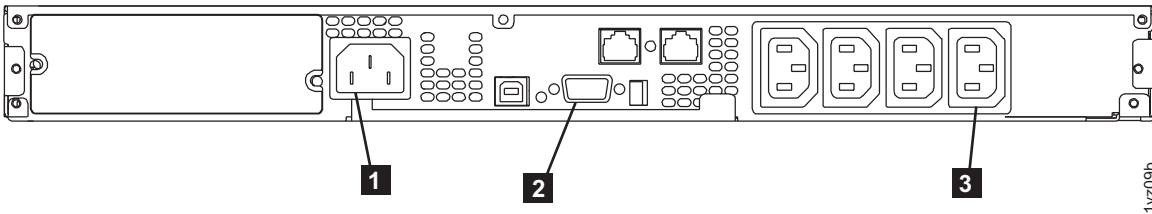

Figure 319. 2145 UPS-1U (rear view)
9. At the back of the 2145 UPS-1U, connect the SAN Volume Controller power cable to load segment 2 receptacle (**3** in Figure 319 on page 330). If applicable, install the power cable-retention bracket (shown in Figure 318 on page 330).
10. Reconnect the SAN Volume Controller signal cable to the communication port (**2** in Figure 319).
11. Reconnect the 2145 UPS-1U main power cable, from either the power distribution unit or from the redundant ac-power switch, into the input connector (**1** in Figure 319).
The 2145 UPS-1U is now in standby mode with the SAN Volume Controller offline. All indicators that are shown in Figure 319 are off.